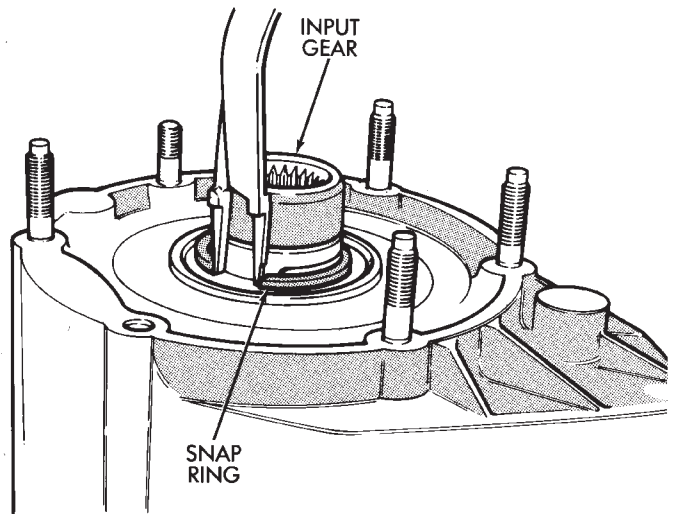

Fig. 29 Removing Input Gear Snap Ring
- (43) Remove input gear snap ring (Fig. 29).